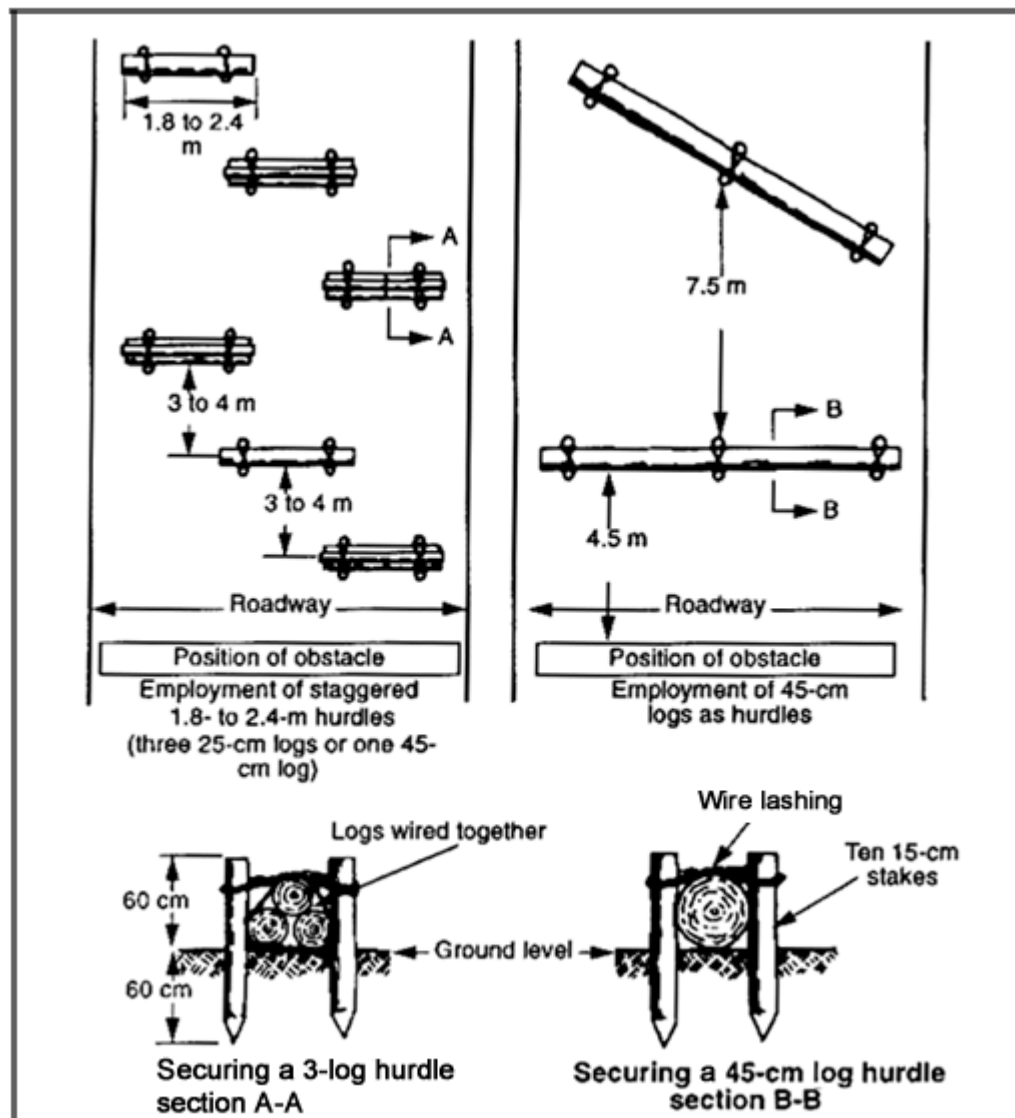

Figure 052-195-3066-10
- (2) The horizontal logs (four per wall) are cut to the roadway width.
- (3) The vertical logs are emplaced 1.8 meters apart and tamped into place.
- (4) The horizontal logs are emplaced and that posts, logs, and braces are lashed with wire.
- (5) The interior of the crib is filled with earth material taken from the enemy side of the obstacle.
- c. Direct the construction of a log hurdle obstacle (Figure 052-195-3066-10). Ensure that--